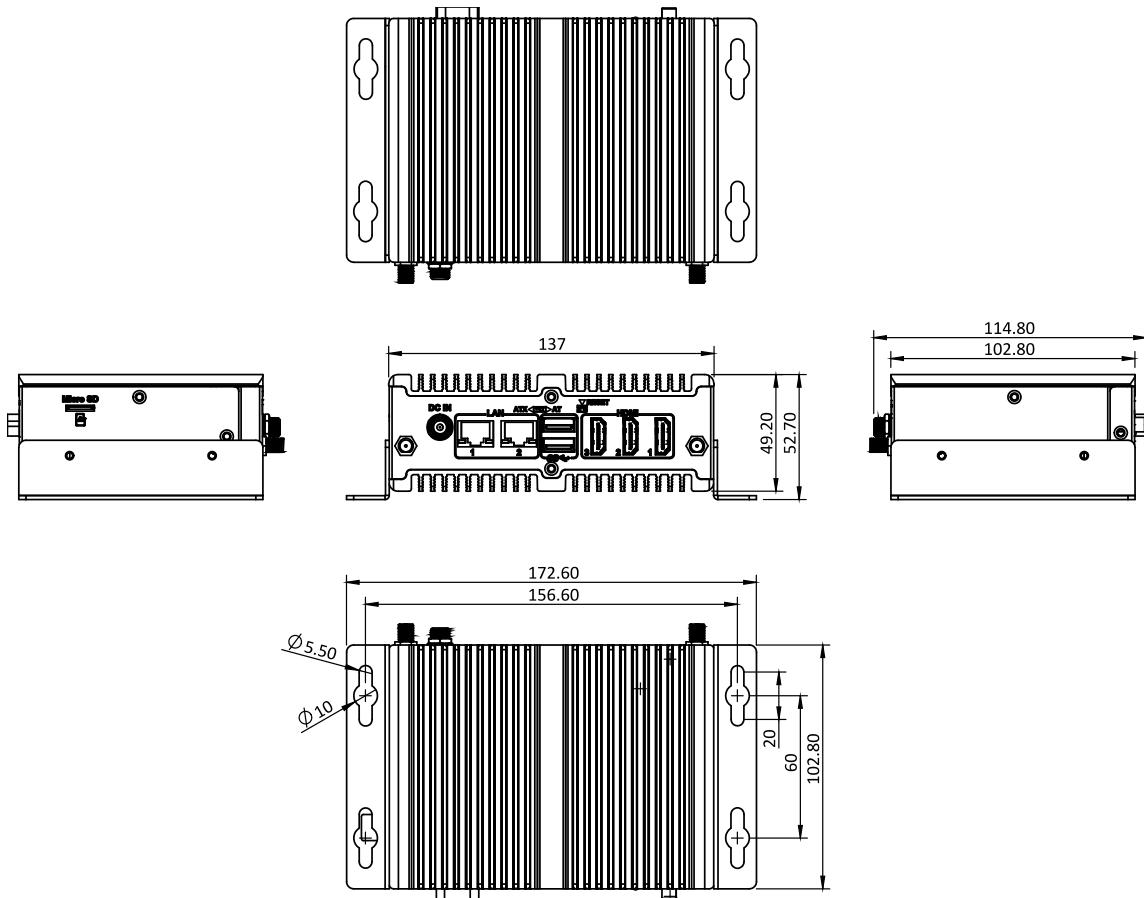

Figure 1-5: Dimensions with Wall Mount Brackets (mm)
Step 3: Drill holes in the intended installation surface according to the bracket dimensions shown in **Figure 1-5** in Chapter 1.